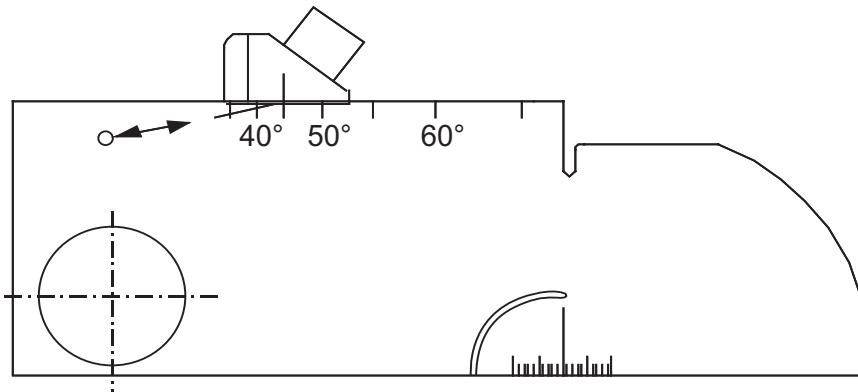

Figure 5-43: Reference Level Adjustment
15. **Setting the reference level:** Set the echo signal level according to the specific code requirement. For example, use the 0.062 side drill as shown in *Figure 5-43*. The echo should be set to vertical line 5 to 7 (50 to 70%) as a reference.